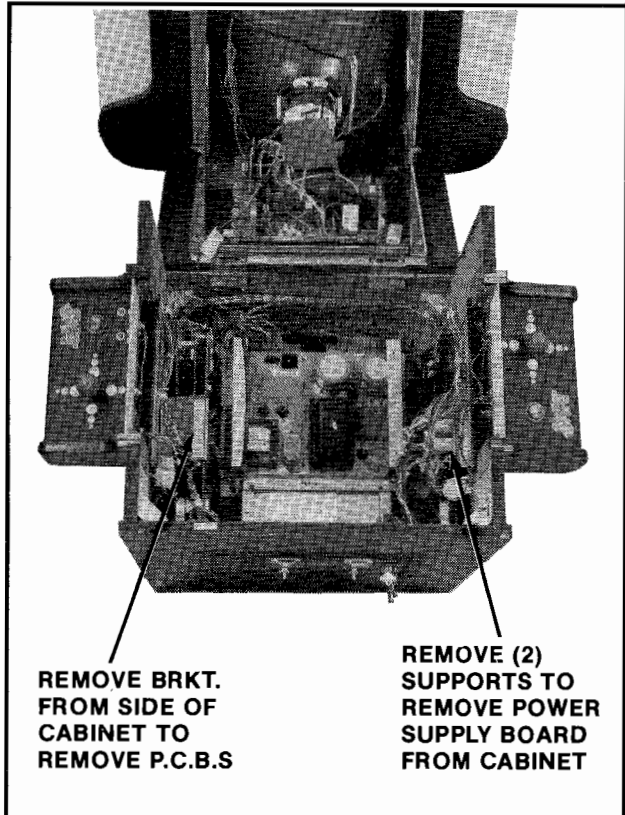

Figure 4-11 Replacing P.C.B.s — Cocktail
2. COCKTAIL TABLE MODEL: See Figure 4-11.
- Remove the linear power supply board. See Figure 4-11.
- To remove the P.C. boards from the card rack. See Figure 4-11.